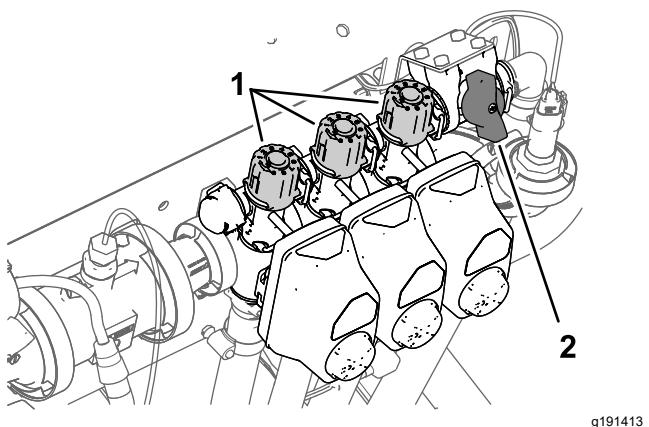

Figure 32
2. Turn off the left-section switch and adjust the section-bypass knob (Figure 32) until the rate displayed is at the previous level according to the table.
4. Adjust the right section-bypass knob (Figure 32) until the rate displayed is at the previous level according to the table.
6. Adjust the center section-bypass knob (Figure 32) until the rate displayed is at the previous level according to the table.